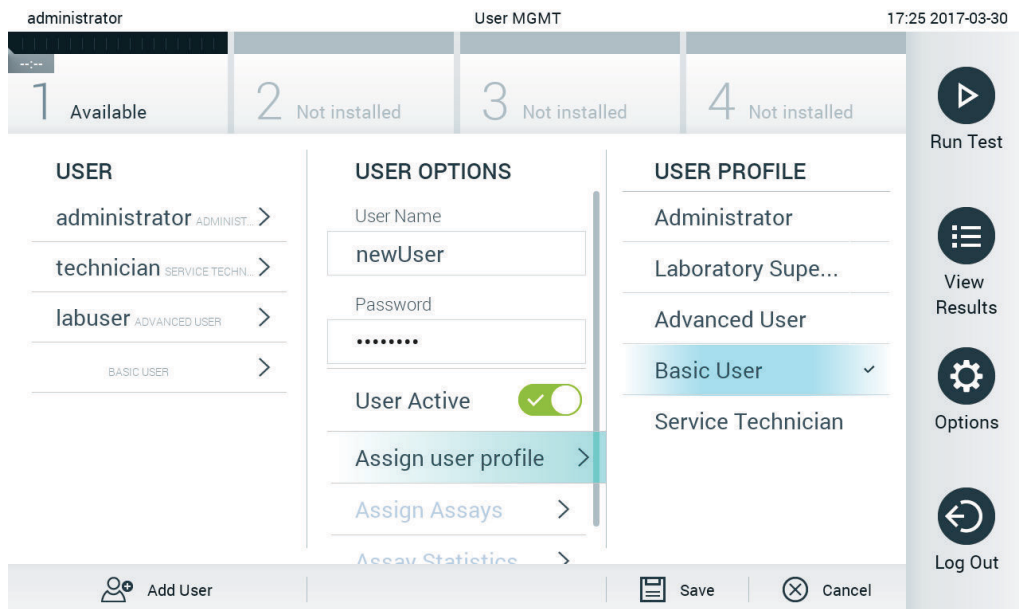

Figure 58. Assigning a user profile to a new user.
4. Press **Assign User Profile** and assign the appropriate user profile (from the list on the right of the content area) to the new user (Figure 58).